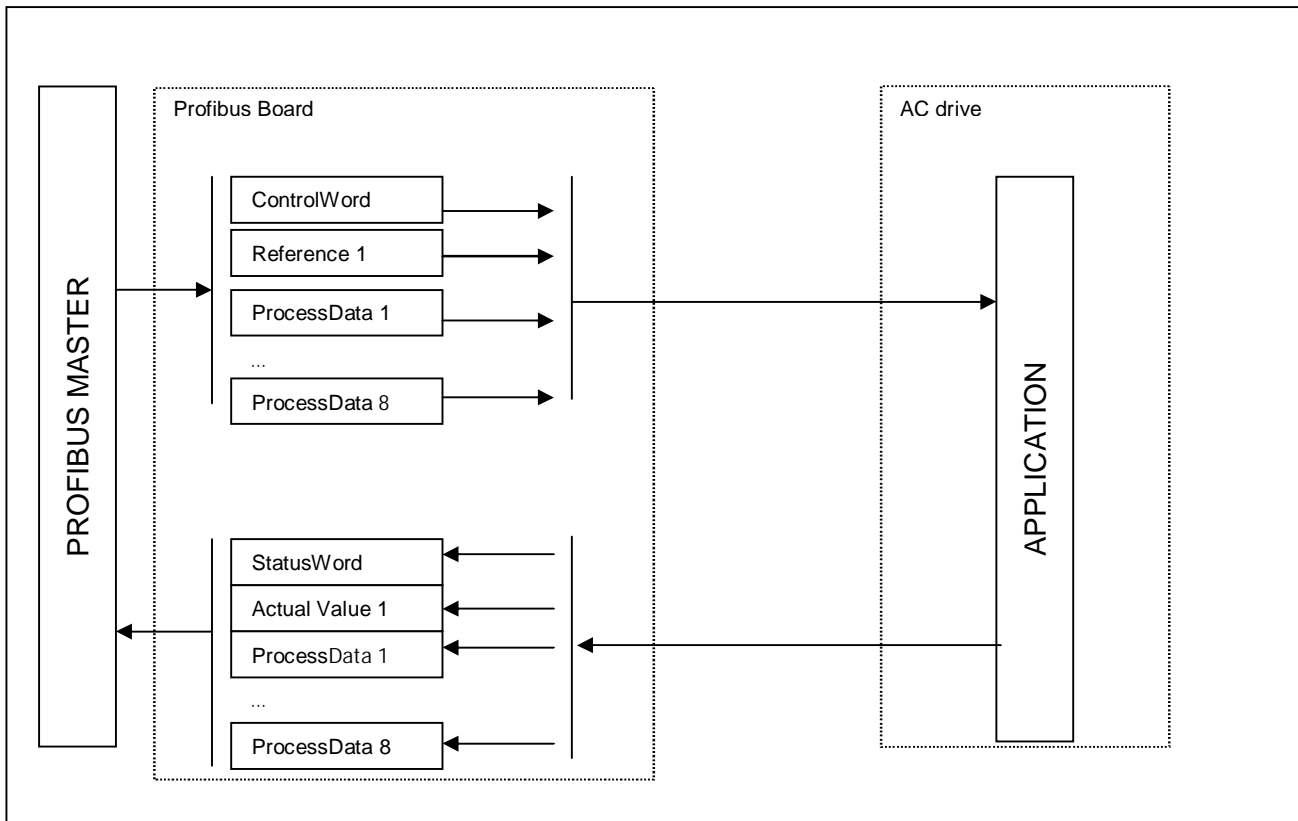

Figure 7-2. Control of the AC drive through Profibus
The use of process data depends on the application. In a typical situation the device is started and stopped via the ControlWord (CW) written by the Master and the Rotating speed is set with Reference (REF). Via PD1...PD8 the device can be given other reference values (e.g. Torque reference). With the help of the StatusWord (SW) read by the Master, the status of the device can be seen. Actual Value (ACT) and PD1...PD8 show the other actual values. See *Figure 7-2*.